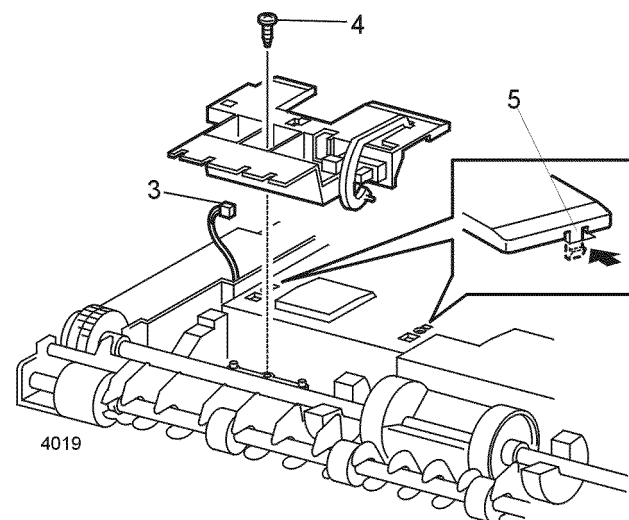

Figure 1 Tray 1 No Paper Sensor Assembly
4. Remove the screw that secures the Tray 1 No Paper Sensor Assembly Bracket to the MBF (Figure 1).
5. Use a small screwdriver to carefully release the two locking tabs that secure the sensor to the sensor assembly bracket (Figure 1).